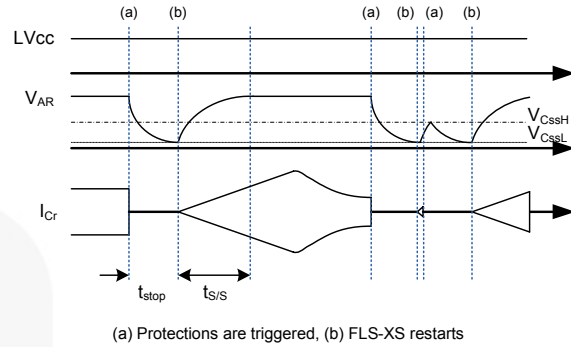

**Figure 20. Internal Block of AR Pin**
**4. Self Auto-Restart:** The FLS-XS series can restart automatically even when any built-in protections are triggered with external supply voltage. As can be seen in Figure 20 and Figure 21, once a protection is triggered, the M1 switch turns on and the V-I converter is disabled.  $C_{SS}$  starts to discharge until  $V_{C_{SS}}$  across  $C_{SS}$  drops to  $V_{C_{SSL}}$ . Then, all protections are reset, M1 turns off, and the V-I converter resumes. The FLS-XS starts switching again with soft-start. If the protections occur while  $V_{C_{SS}}$  is under  $V_{C_{SSL}}$  and  $V_{C_{SSH}}$  level, the switching is terminated immediately,  $V_{C_{SS}}$  continues to increase until reaching  $V_{C_{SSH}}$ , then  $C_{SS}$  is discharged by M1.